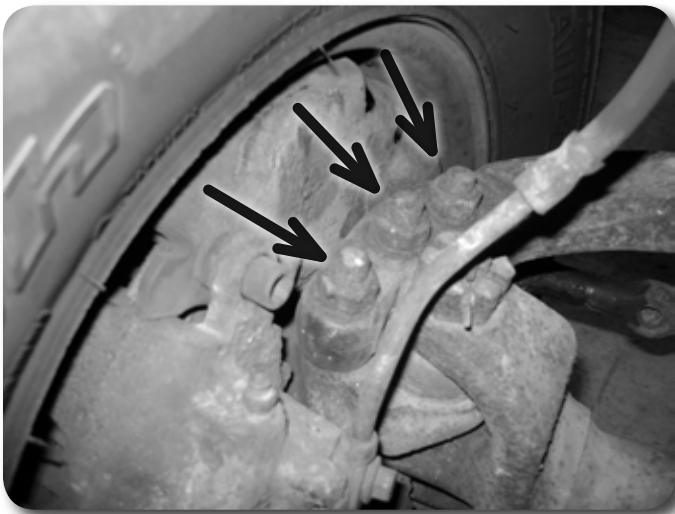

Figure 2
6. Remove the three nuts mounting the steering arm to the driver's side steering knuckle. The arm is also held in place by tapered collars at each stud. Strike the arm near each stud to release the taper. Remove the tapered collars and steering arm. Save collars and nuts. It may be necessary to spray the studs/collars with penetrating oil to aid in loosening taper. **Figure 2**